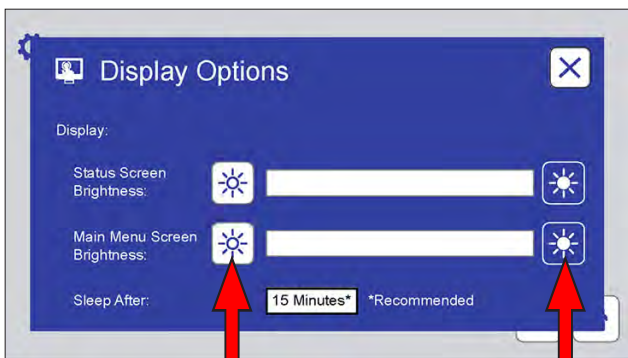
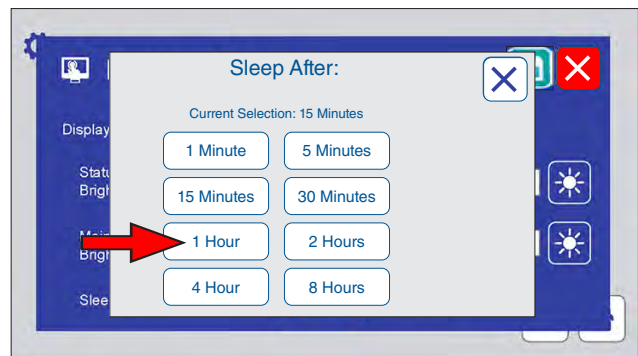

Figure 11.7e: The Display Options screen provides controls to adjust the brightness of the status and menu screens. Touch a brightness icon to adjust.
Figure 11.7h: Touch a time button to change the time before screens go to sleep. If changed, touch the save icon to save the new time.
- o Display Options (Figure 11.7e through Figure 11.7h)